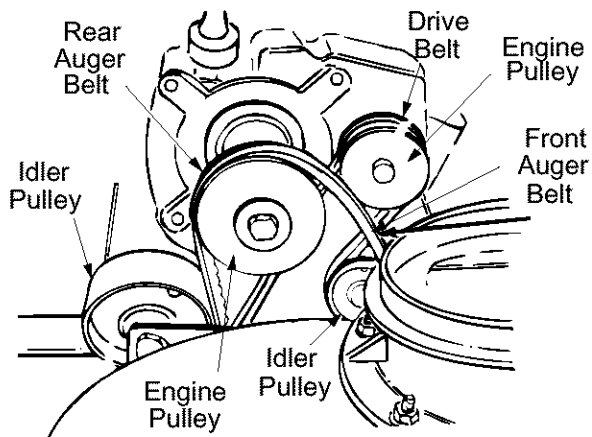

Figure 26
5. Roll the front and rear auger belts off the engine pulley. See Figure 26.
2. Pull idler pulley up, and lift belt off engine pulley and friction wheel disc. See Figure 26